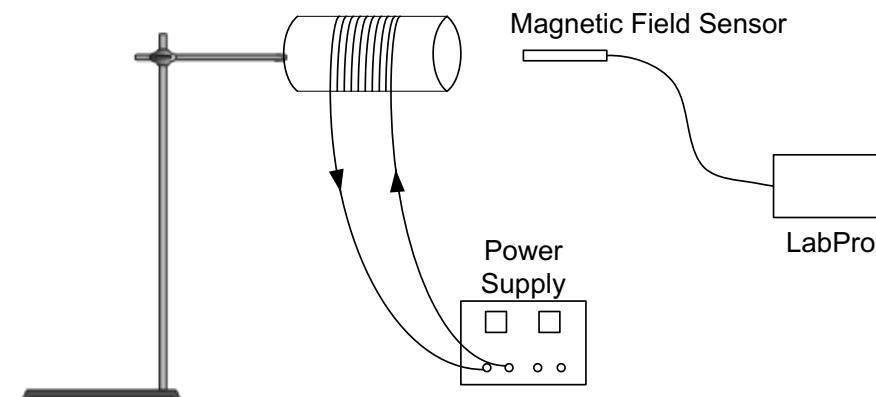

Figure 3 Experiment setup
2. Loop the wire 20 times around a hollow cylinder forming a solenoid of 20 turns and fix the cylinder to the ring stand as shown in Figure 3. Use tape to secure the wire on the cylinder.
2. Set the power supply so that the current will be 3A when attached to the solenoid. Attach the ground alligator clip to one end of the solenoid. Hold the sensor along one end of the solenoid. Click . Wait 2 to 3 seconds and then connect the positive alligator clip to the solenoid as shown in Figure 3. What did you observe?